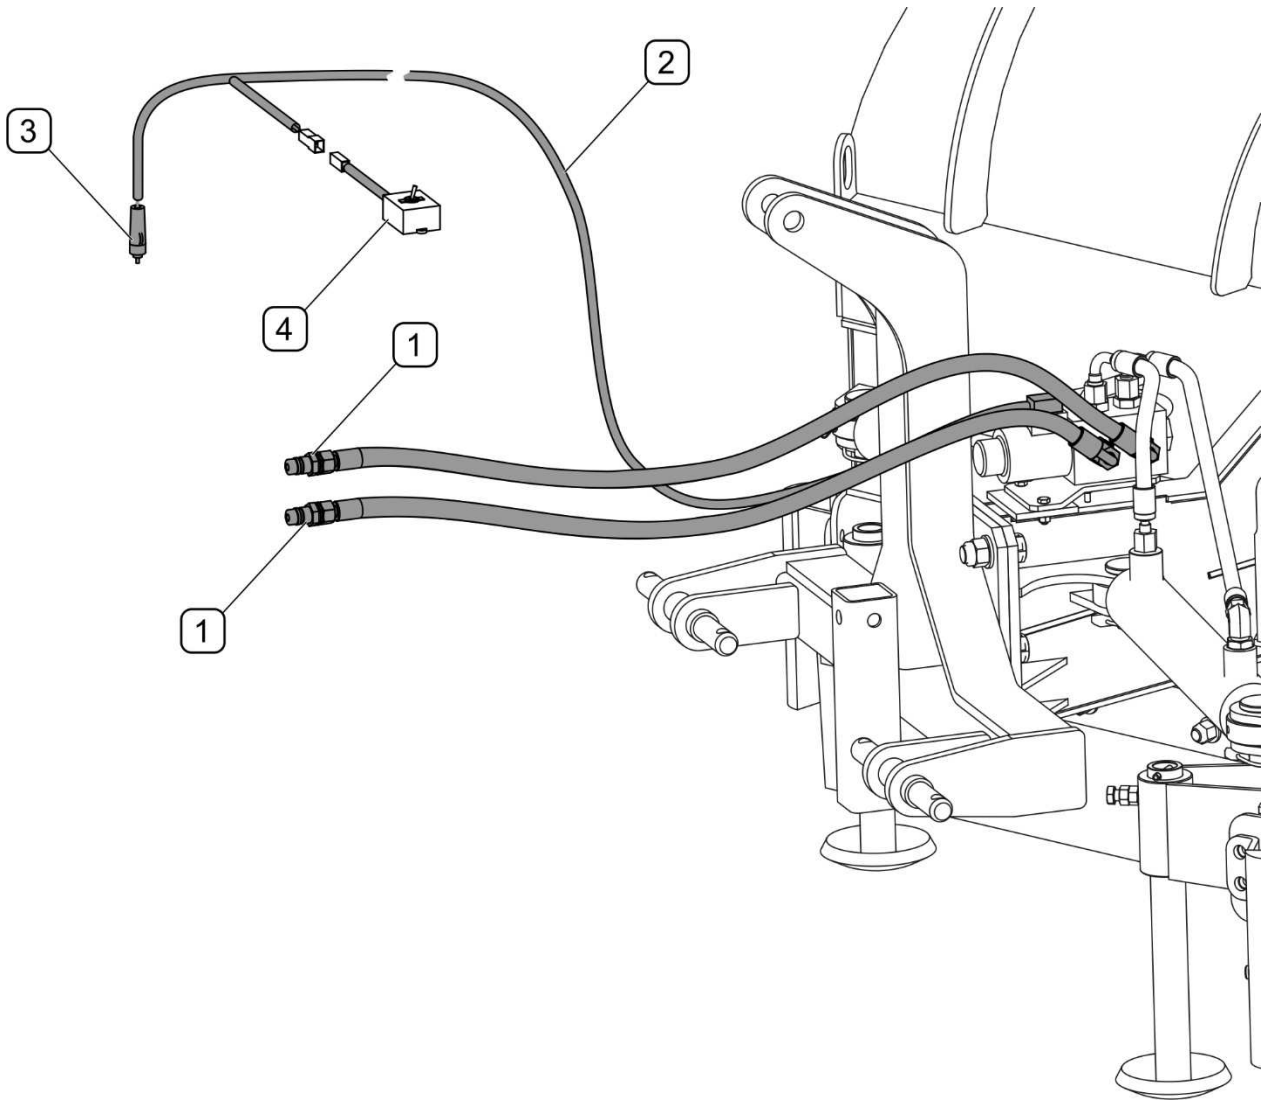

FIGURE 4.2 Connecting hydraulic system and electrical system to tractor
Connect the snowplough control hydraulic conduit connectors (1) to the tractor external hydraulic outlets (FIGURE 4.2). When connecting hydraulic conduits to the tractor make sure they are arranged without bends and twists, and are protected from damage.